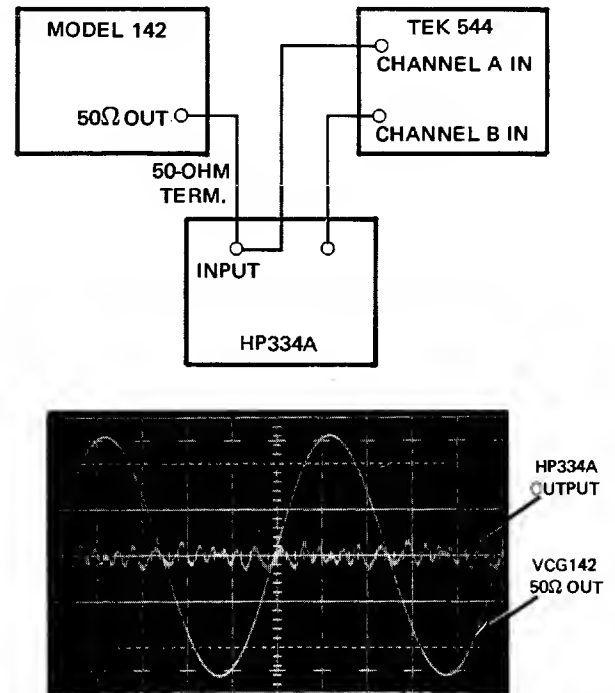

Figure 4-1 - Distortion Analysis Test Set-Up
22. Connect the test equipment as shown in Figure 4-1, and adjust R159, R168, and R145 for minimum sine wave distortion.